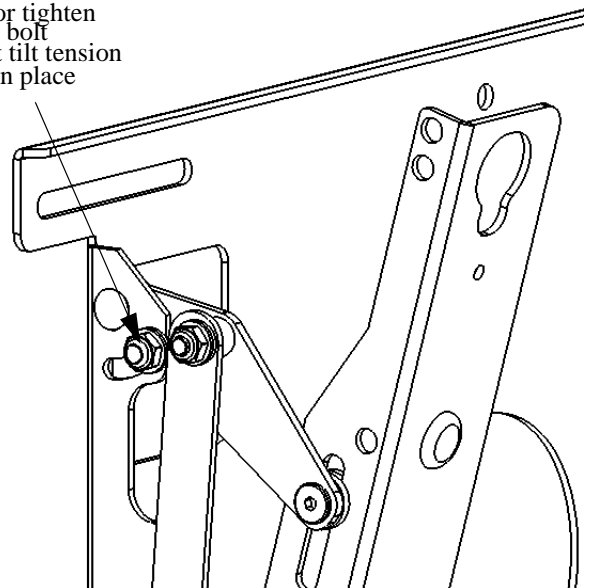

Figure 7. Tilt Tension Adjustment
**NOTE:** If display does not remain at desired tilt setting, tighten the nut and bolt on tilt arms on each side (see Figure 7).